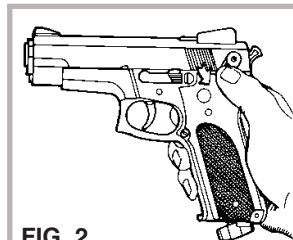

FIG. 2
Rotate the safety lever counterclockwise toward the “SAFE” position (see Fig. 2). In this position, the trigger cannot be pulled to fire the gun.
**NOTE:** The safety is not automatic. It will only do its job when you do yours. With the index finger out of the trigger area, move the safety lever to the “SAFE” position (see Figs. 2 and 2A). **REMEMBER, THE BEST SAFETY IS GOOD GUN HANDLING.**